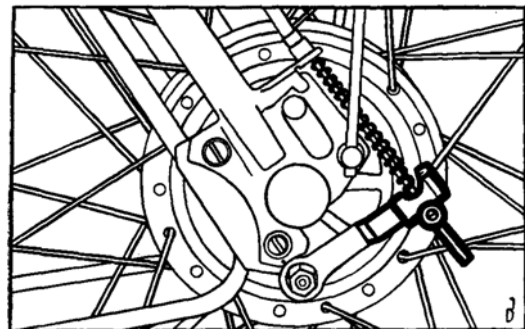
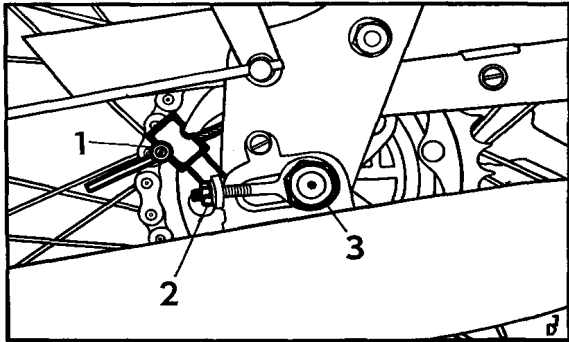
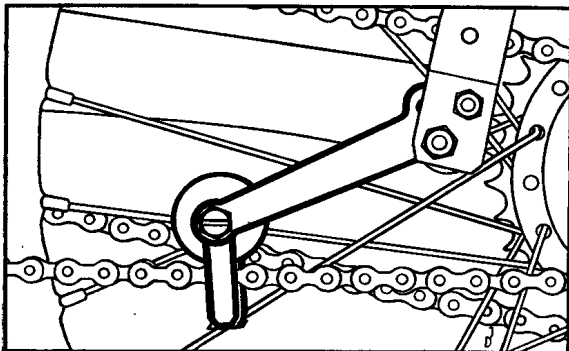

Fig.15 Adjustment of front brake
Fig. 16 Adjustment of rear brake and engine chain
Fig. 17 Adjustment of chain of pedals
If the brakes are not able to be tightened by the screws arranged on the handlebars these may be adjusted on the brake cams, (fig.15 and fig.16) by tightening the brake cable. Then the final regulation of brake adjustment is to be effected by the screws arranged on the handlebars.
The chain of the engine is adjusted after loosening the nut of rear axle (3 fig.16). By tightening the nuts of chain tightener (2) on both sides of frame tighten the chain so it has the clearance of abt. 10mm after the compression. After the adjustment of chain check the trace of the wheels by means of straight lath and tighten thoroughly the nuts of the axle. The chain of the pedals is adjusted by means of tension pulley arranged on L. H. side of the moped (fig. 17).